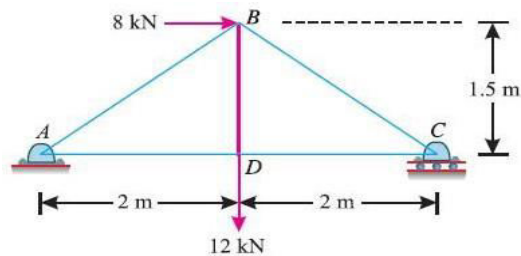

Fig.32
7. Figure 32 shows a framed structure of 4 m span and 1.5 m height subjected to two point loads at B and D.[L5] [6M]